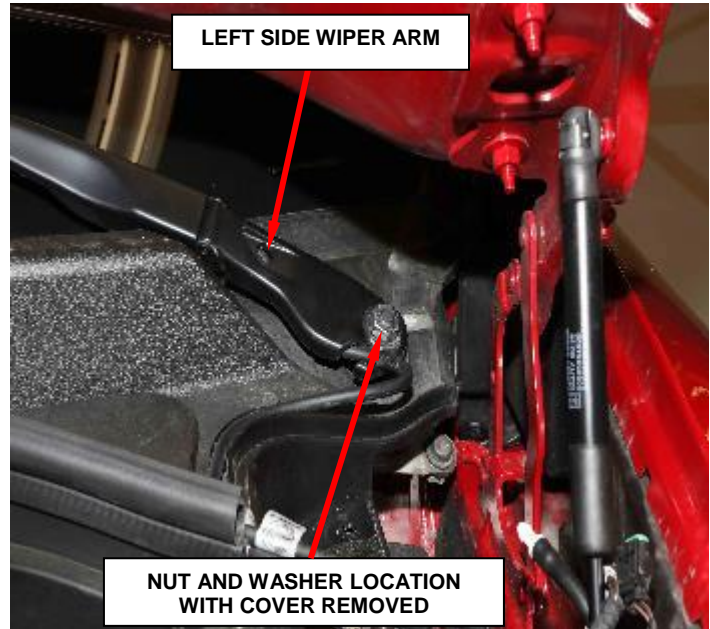

Figure 6 – Left Side Wiper Arm Nut
- f. Remove the nuts and the washers (Figure 6).